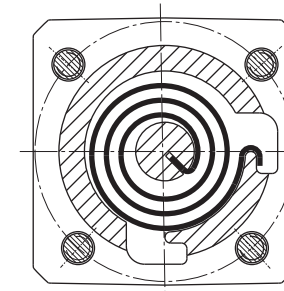

figure 4 Orientation of closing springs for "right-hand" operation (standard design)
- The spring housing (25) contains 2 moulded receiving grooves for the closing springs. The grooves are required for the different mounting of closing springs for "right-hand-side operation" or "left-hand side operation" designs.
- When inserting the closing springs, first place them into the spring housing (25). Note the correct orientation of the springs as in figures 4 and 5.
- The pre-tension of the closing springs is correct when all 4 fastening screws (51) can be fitted to the housing (approx. half a turn of the spring housing). The valve flap must be in the closed position.